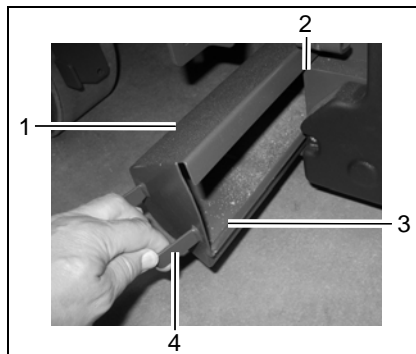

Fig. 30
The waste container (Fig. 30/1) can only be removed on the right-hand side of the vehicle.
1. Take hold of the waste container (Fig. 30/1) by the handle (Fig. 30/4) and pivot it back to the left a little to unlock it.
2. Pull the waste container (Fig. 30/1) out using the handle (Fig. 30/4).
The waste container cannot be filled higher than the throw-in edge (Fig. 30/3).
Empty the waste container (Fig. 30/1) regularly at a suitable location.
1. Wash and clean the waste container (Fig. 30/1) with water.
Position the waste container (Fig. 30/1) on the guide edge (Fig. 30/2) and slide in, from the right-hand side, until it will go no further.